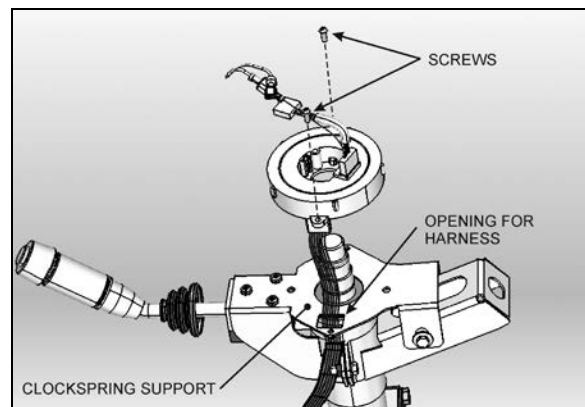

FIGURE 14: CLOCKSPRING INSTALLATION
3. Route the new clockspring harness through the opening in the clockspring support (Fig. 14). Plug the connector at the base of the steering wheel column and fix harness along the steering wheel column.